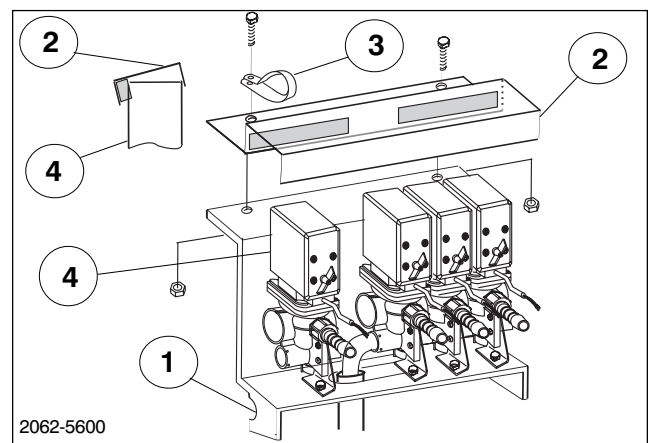

FIG. 11
12. Tilt Valve Support onto agitation and Boom Valves and attach to Boom Mount Bracket with Supply Hose R-Clamp using two (2) 1/4-20 x 3/4 Flange Bolts and (2) 1/4-20 Flange Nuts. (See FIG. 11)
29. Attach the Boom Feeder Hoses to the Barbs in the Boom Control Valves with Hose Clamps. (See FIG. 11, page 13)
32. Locate the Agitation Supply Hose which is running through a R-Clamp on the right side of the Tank Saddle. Place a Hose Clamp on that hose and attach it to the Barb in the Agitation Control Valve. (See FIG. 11, page 13)
33. Route Wire Harness along Agitation Supply line to Boom Mounting Bracket. Make sure the Harness is routed so that it does not touch edges of Support Brackets. The Harness will be coiled between Tank and right rear fender. There will be two (2) legs of the Harness; one (1) will be for optional lifts and Foam Marker. Route that leg along the Boom Main Frame Tube and secure to Tube if those optimal accessories are not added. The other leg of the Harness will have a Flow Meter Connector, Pressure Gauge 4MM type, three (3) Boom Plugs, one (1) Agitation Plug and a PWM Valve Plug.